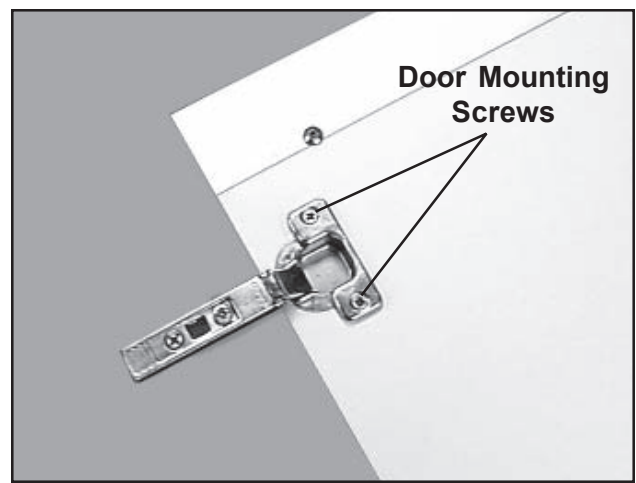

Figure 15. Hinge Mounted on Door
2. With a Phillips screwdriver, remove the two screws on each hinge and remove both hinges from the old door (Figure 15).
3. With a Phillips screwdriver, remove the two mounting screws on the hinge and remove the hinge from the door (Figure 15).